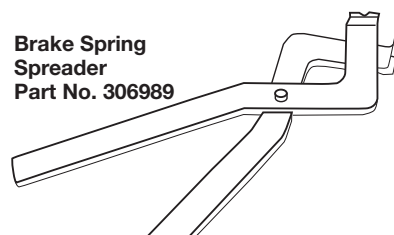
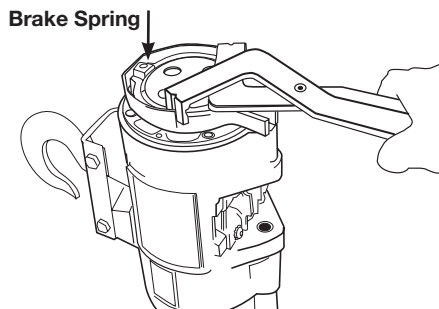
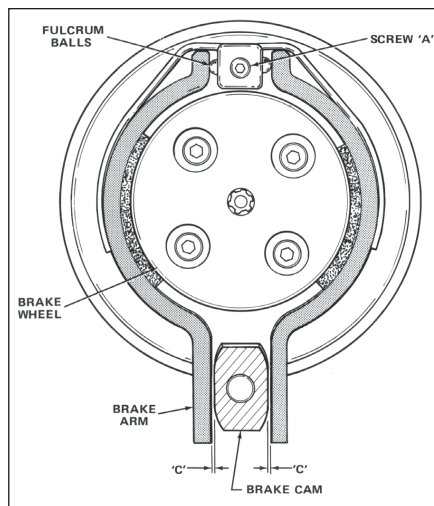

Figure 14- Special Tool for Removing Brake Spring
Figure 15 - Removing Brake Spring Using Special Tool
Figure 24 - Brake Adjustments
4. Remove brake spring by carefully prying it up evenly with a screwdriver until spring is about half-way off. Using brake spring spreader (Part No. 306989, Figure 14), remove spring from brake arms (Figure 15).
spring, using the spreader tool to start the spring over the shoes (See Figures 14 and 15). Tap the spring into place. Adjust brake shoes per instructions in Figure 24.